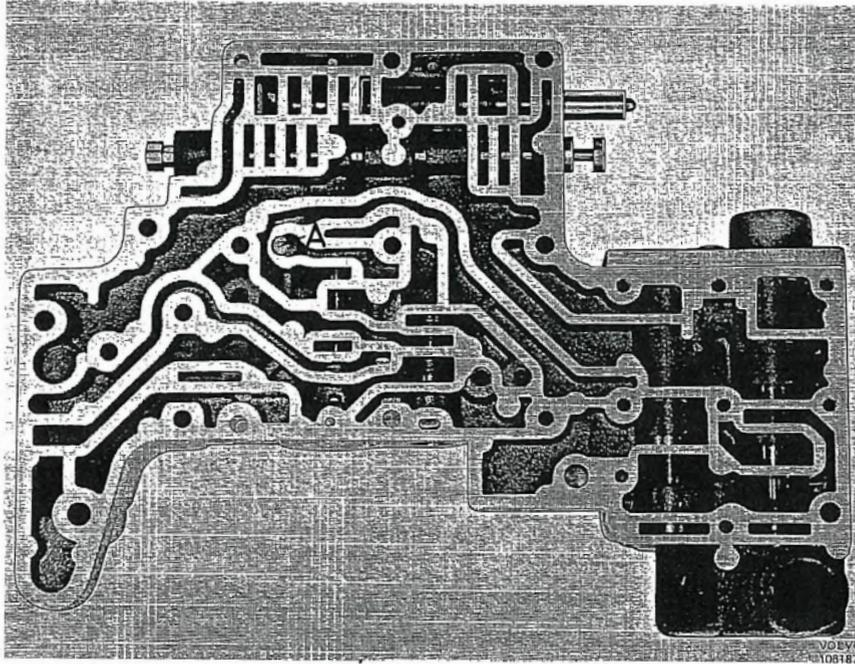

Fig. 4-74. Check valve in lower valve body
- valve for fast 3-2, see Fig. 4-74. Withdraw the manual control valve, see "A", Fig. 4-75.